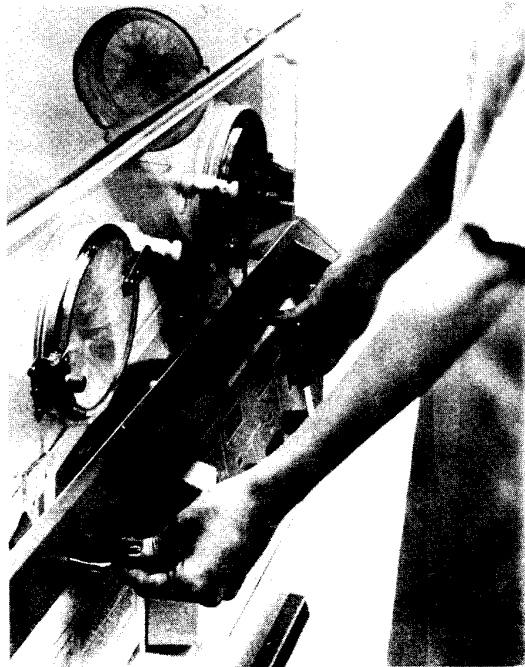

**FIGURE 2.6 ACCESS DOOR OPERATION**
12. CHECK ELBOW LATCH ACCESS DOORS. Gently press the door release with an elbow, as shown in Figure 2.6. Each Access Door should swing open. Close the doors and check for proper latching.